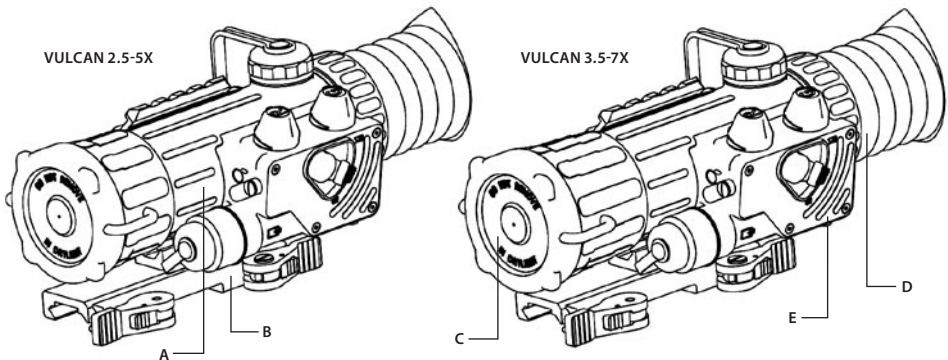

FIGURE 2-1. VULCAN NIGHT VISION RIFLESCOPES
The Vulcan consists of two primary parts, as shown in Figure 2-1: the night vision device (A; hereafter referred to as the NVD), and the quick-release mount system (B), or mount. The Vulcan is delivered already assembled; the mount should be secured to the NVD with two screws.